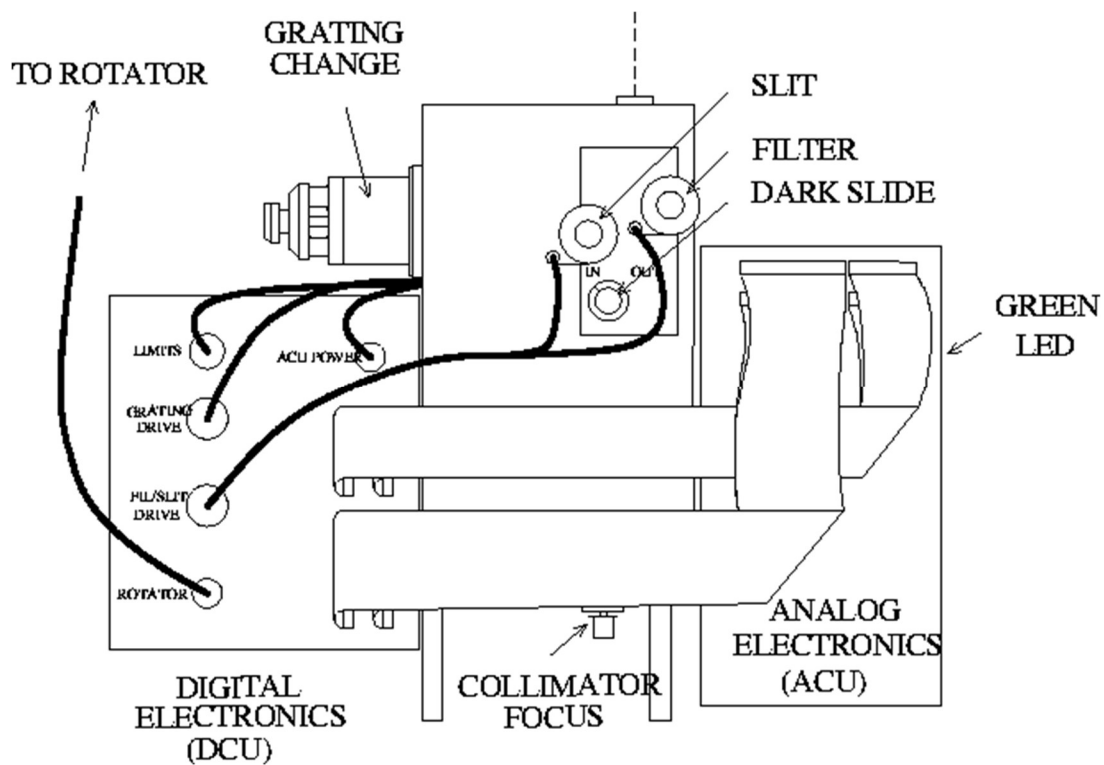

Fig. 2 Side View of CRSP
- Install Dewar Cables (refer to Figs. 2 & 3):